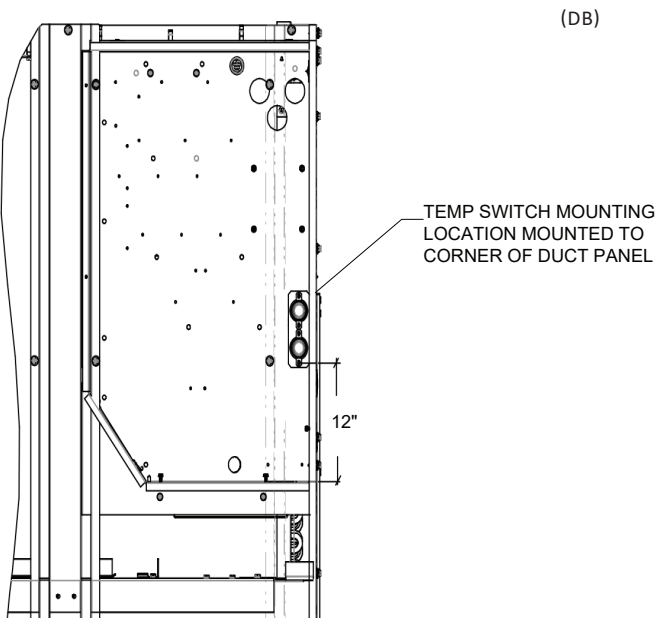

FIGURE 14
- Using the T-Stat Mount as a template, pre-drill two holes (7/32") per temperature switch in the corner of the duct panel. The bottom of the T-Stat Mount should be about 12" above the floor of the control box. See Figure 14.